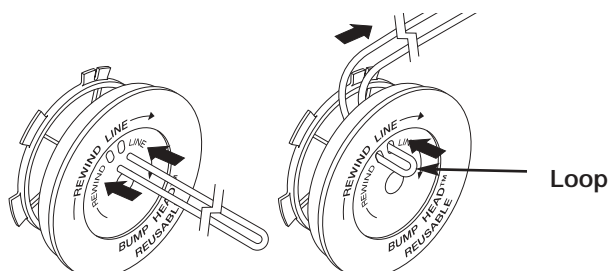

FIGURE 16
- Take approximately 7.6 m (25 feet) of new trimming line and loop it into two equal lengths. Insert each end of the line through one of the two holes in the inner reel, Figure 16. Pull the line through the inner reel so that the loop is as small as possible.